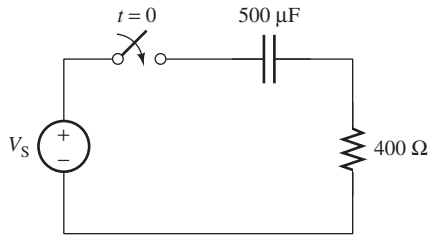

FIGURE P5.52 Circuit for Problem 5.52.
- 5.52 (A) The switch closes at $t = 0 \, \text{s}$. Find the expression of current flow for the circuit shown in Figure P5.52, if the voltage source is $v_S(t) = 10 \cos(200t)$.